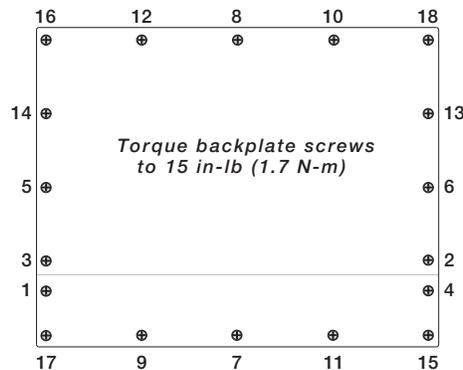

Figure 7. 920i Enclosure Backplate
2. Position the backplate over the enclosure and reinstall the backplate screws. Use the torque pattern shown in Figure 7 to prevent distorting the backplate gasket. Torque screws to 15 in-lb (1.7 N-m).